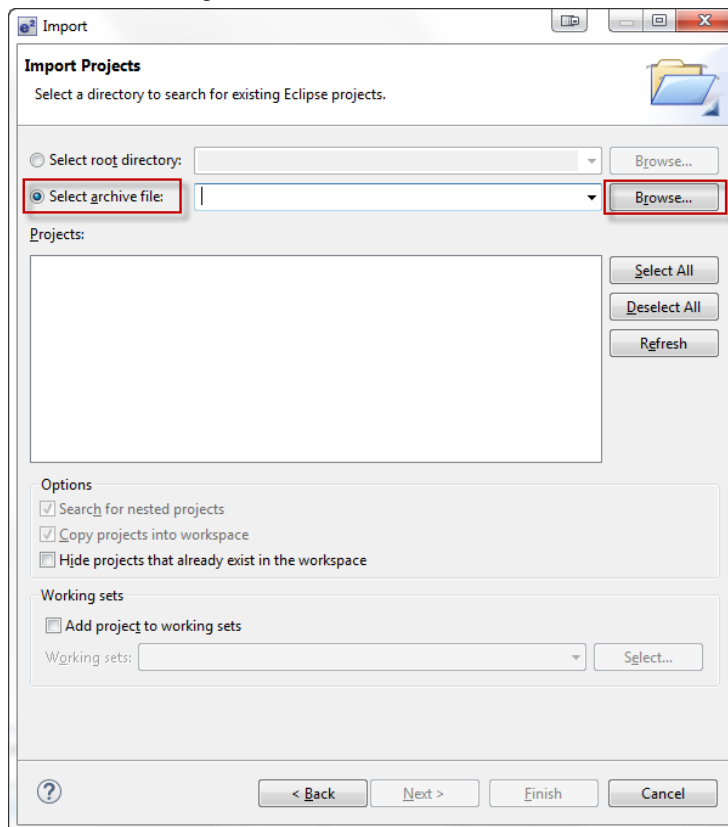

Figure 2.7 Import Existing Project dialog 1
7. Click **Select archive file** as shown in Figure 2.7.